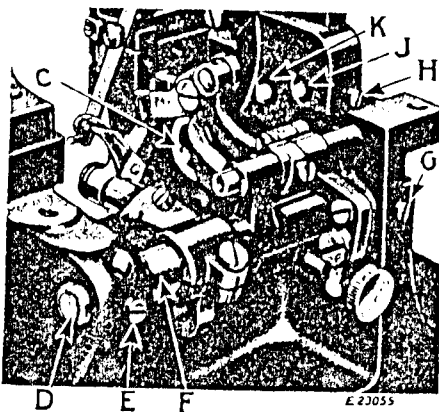
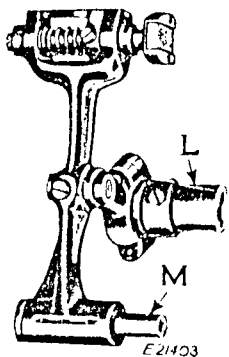

Fig. 36
Fig. 37
When inserting the hinge pin (D, Fig. 36) of the feed rock shaft make sure that the wick at each end of the pin is directly over the slots in the bushings. Then slightly tighten the set screws (E and G).
Insert the feed lifting eccentric (L, Fig. 37) into the hole (C, Fig. 36) of the feed lifting eccentric connection and insert the end of the knife lever hinge stud (M, Fig. 37) into the hole (K, Fig. 36) of the casting, having the flat in the hinge stud in position to receive the set screw (G, Fig. 14). Then securely tighten the set screw.
(See Fig. 36)
After the feed dog is installed, place the throat plate in position. The correct position of the feed dog between the bars of the throat plate is obtained by moving the feed rock shaft (F, Fig. 36) to the right or left as desired. Then bring the bushings on each side close up to the ends of the feed rock shaft bearings and firmly tighten the set screws (E and G, Fig. 36).
Insert the presser lever hinge stud (A) into the hole (J, Fig. 36) in the casting, having the flat in position to receive the set screw (H, Fig. 36), then firmly tighten the set screw.